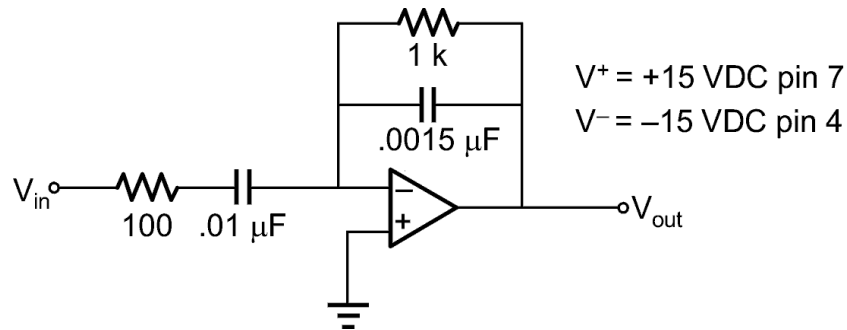

Figure 1
1. Derive the equation for V_{out} for the circuit of Figure 1. Calculate the highest usable (“differentiable”) frequency, f_{high} . Record these items in Table 1.